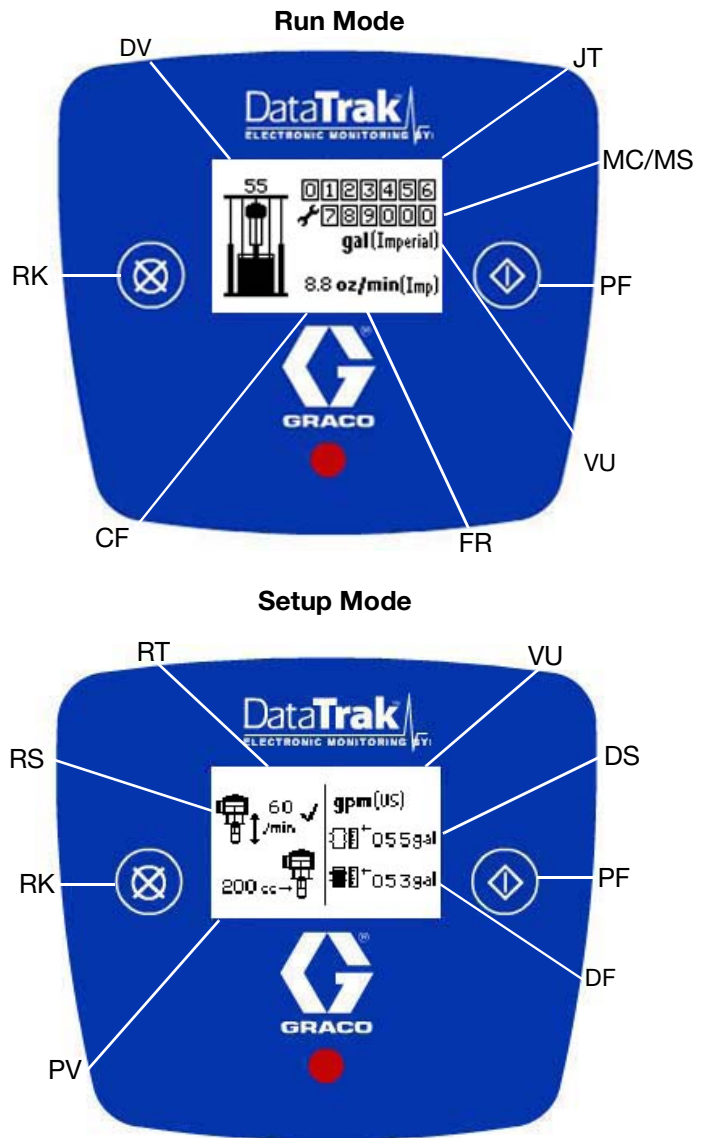
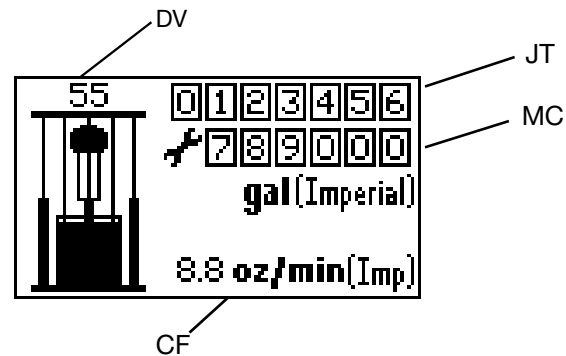

Fig. 26: Remote DataTrak Controls and Indicators
FIG. 29: Run Mode Screen
4. The Splash Screen (FIG. 28) will flash on while the progress bar fills from left to right. It will then go directly to Run Mode (FIG. 29).
See FIG. 26 and FIG. 29.
2. While in Prime Mode, the job total counter (JT) is blank and will not count. However, the maintenance counter (MC) will continue to decrement.
3. When a new drum is installed, press and hold  while in Prime Mode to reset the drum volume remaining (DV) to the drum fill volume (DF).
4. To exit Prime Mode, press . The Prime symbol will disappear and the LED will stop flashing; the screen will return to Run Mode (FIG. 29).
NOTE: If a key is not pressed within one minute of entering a setup screen, the system will return to Run Mode (FIG. 29).
- a. Press and release  to enter Diagnostic Mode from Run Mode (FIG. 29).